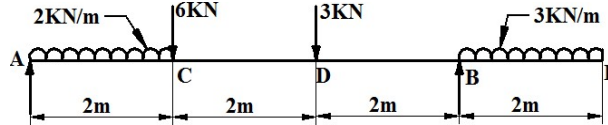

Figure 26
15. For the beam shown in **Figure 26**. Draw shear force and bending moment diagram and indicating the principle values (June/July 08)